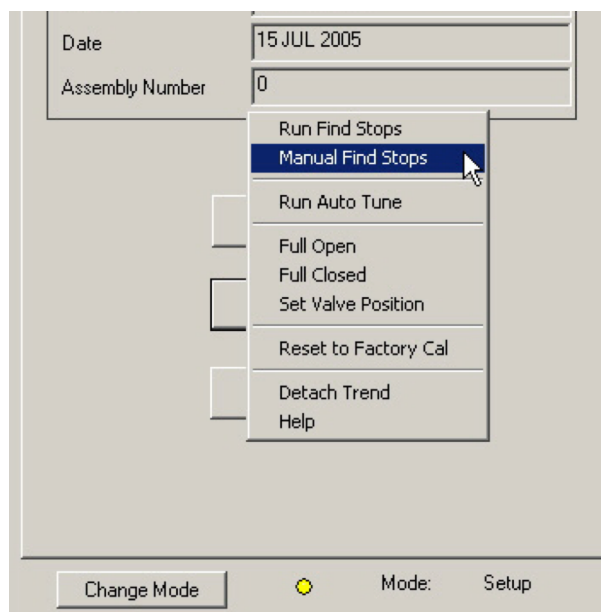

Figure 165 - Selecting Manual Find Stops
1. Right-click in the *Calibrate* screen and select **Manual Find Stops** (Figure 165).